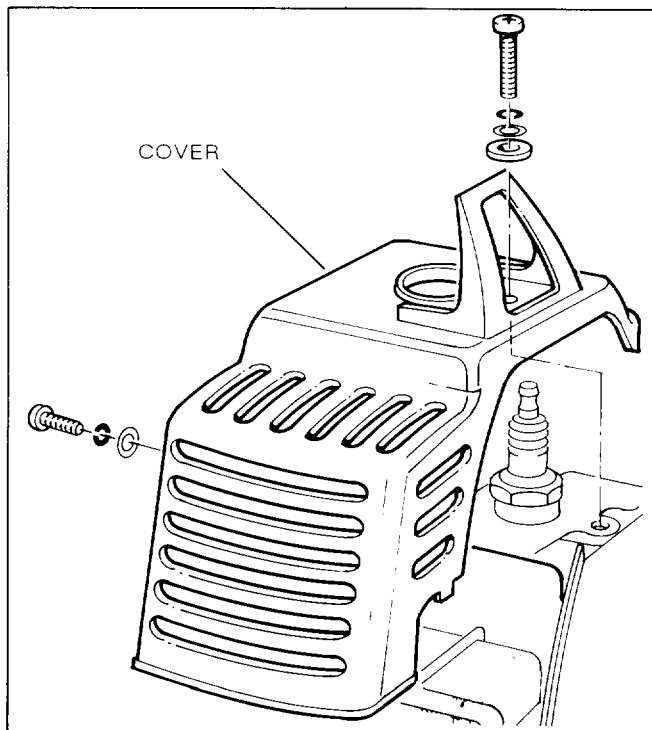

Figure 1
1. Remove (2) screws securing muffler cover to trimmer (Fig.1).
7. Install muffler cover to trimmer with (2) screws previously removed (Fig.1).